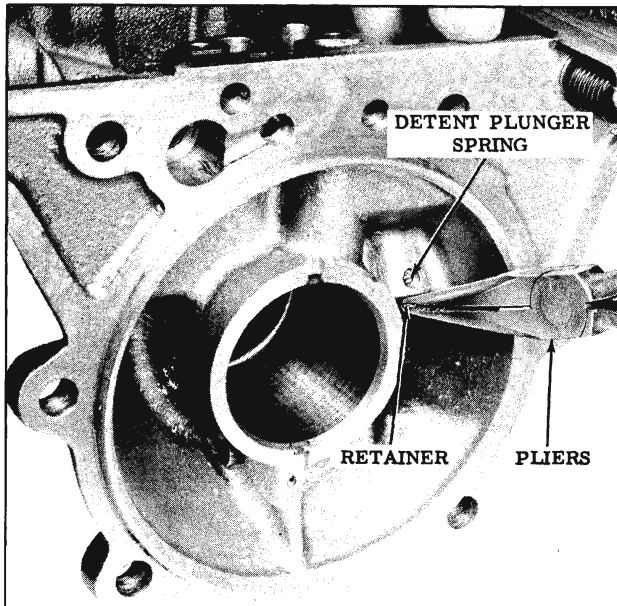

Fig. 3-267 Removing Detent Plunger
ing plunger against spring tension while removing the retainer. (Fig. 3-267)
2. Install the detent plunger and spring, compress the plunger and spring and install the retainer. (Fig. 3-267)